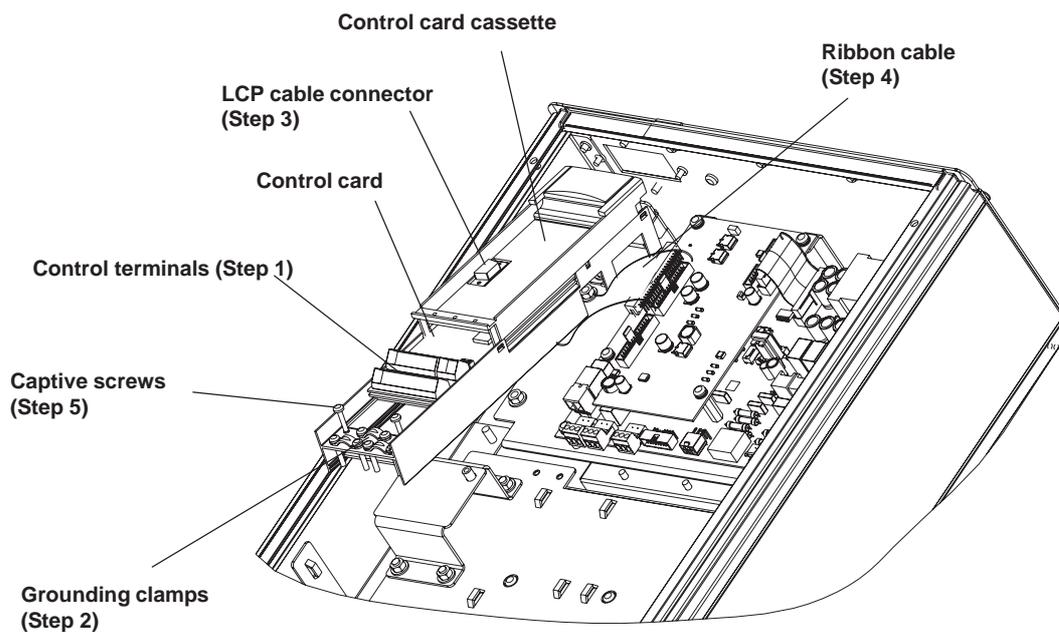

Figure 6-1. Control Card Cassette
1. Remove control wiring by unplugging control terminals (see Figure 6-1).